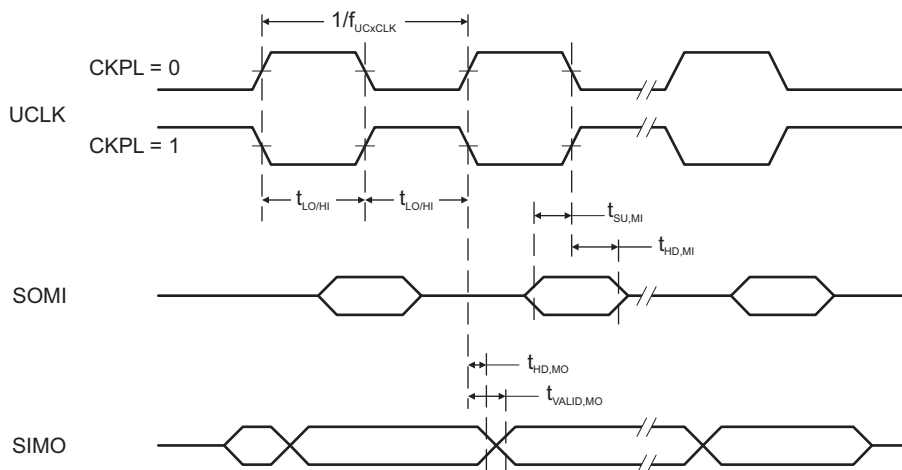
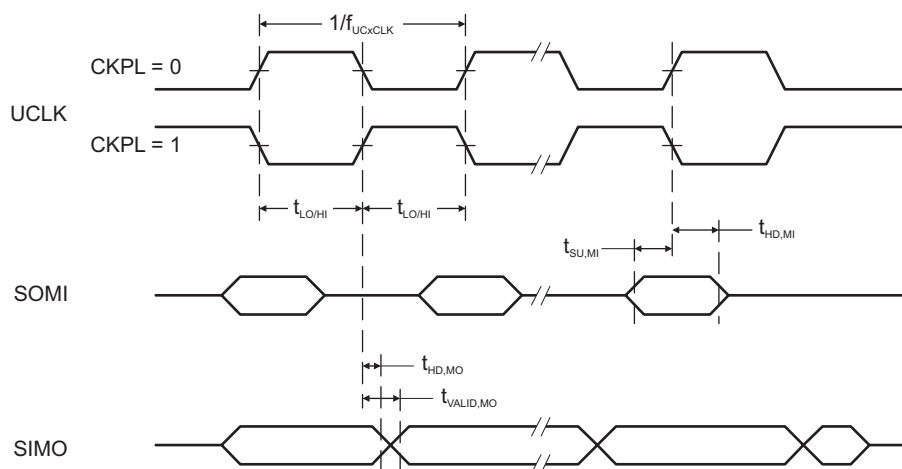

**Figure 5-11. SPI Master Mode, CKPH = 0**
**Figure 5-12. SPI Master Mode, CKPH = 1**
(see Figure 5-11 and )
- (2) Specifies the time to drive the next valid data to the SIMO output after the output changing UCLK clock edge. See the timing diagrams in Figure 5-11 and Figure 5-12.
- (3) Specifies how long data on the SIMO output is valid after the output changing UCLK clock edge. Negative values indicate that the data on the SIMO output can become invalid before the output changing clock edge observed on UCLK. See the timing diagrams in Figure 5-11 and Figure 5-12.